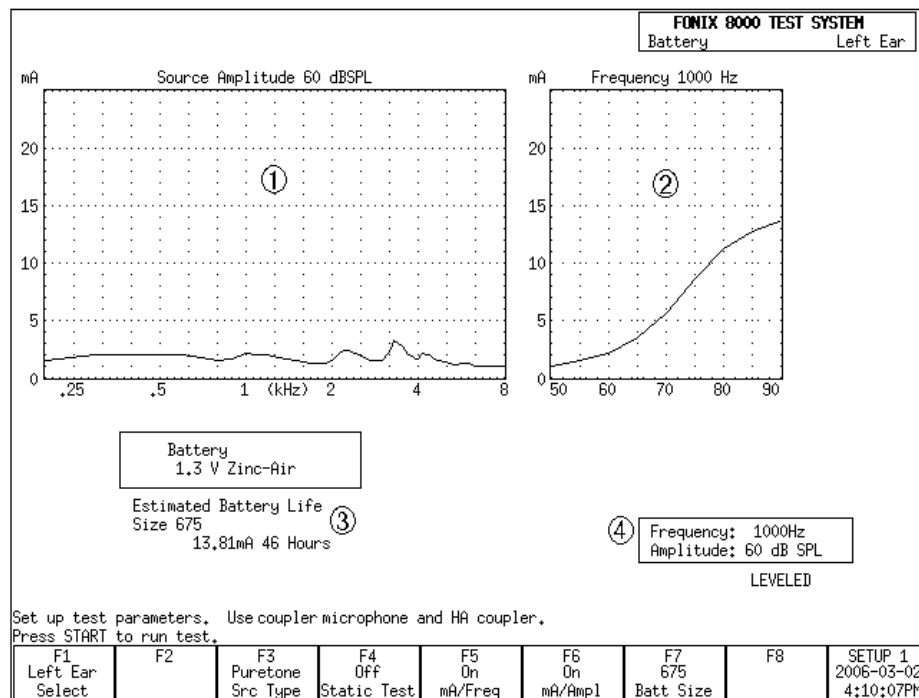

Figure 4.2—Battery Current Test
3. Use [F4] to toggle the Static Tone to On. The estimated battery life should now be displayed below the ma/Freq graph. See Figure 4.2.